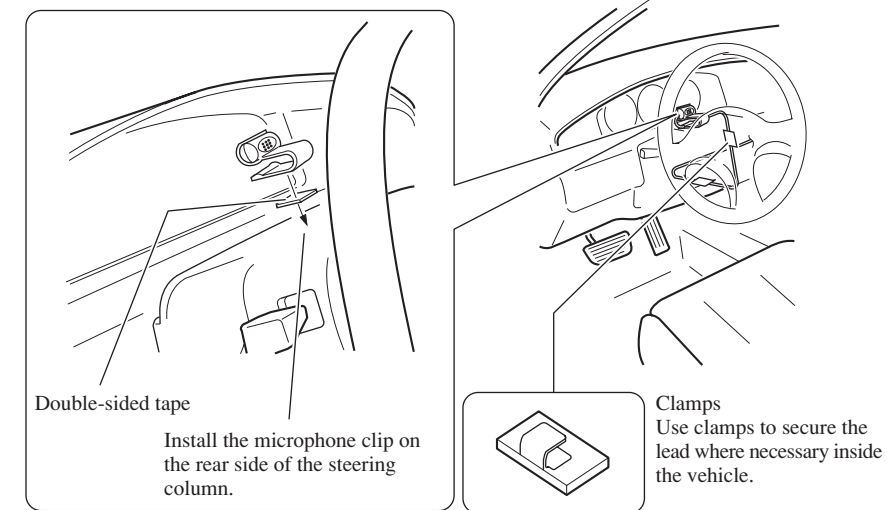

Fig. 15
2. Install the microphone clip on the steering column. (Fig. 15)